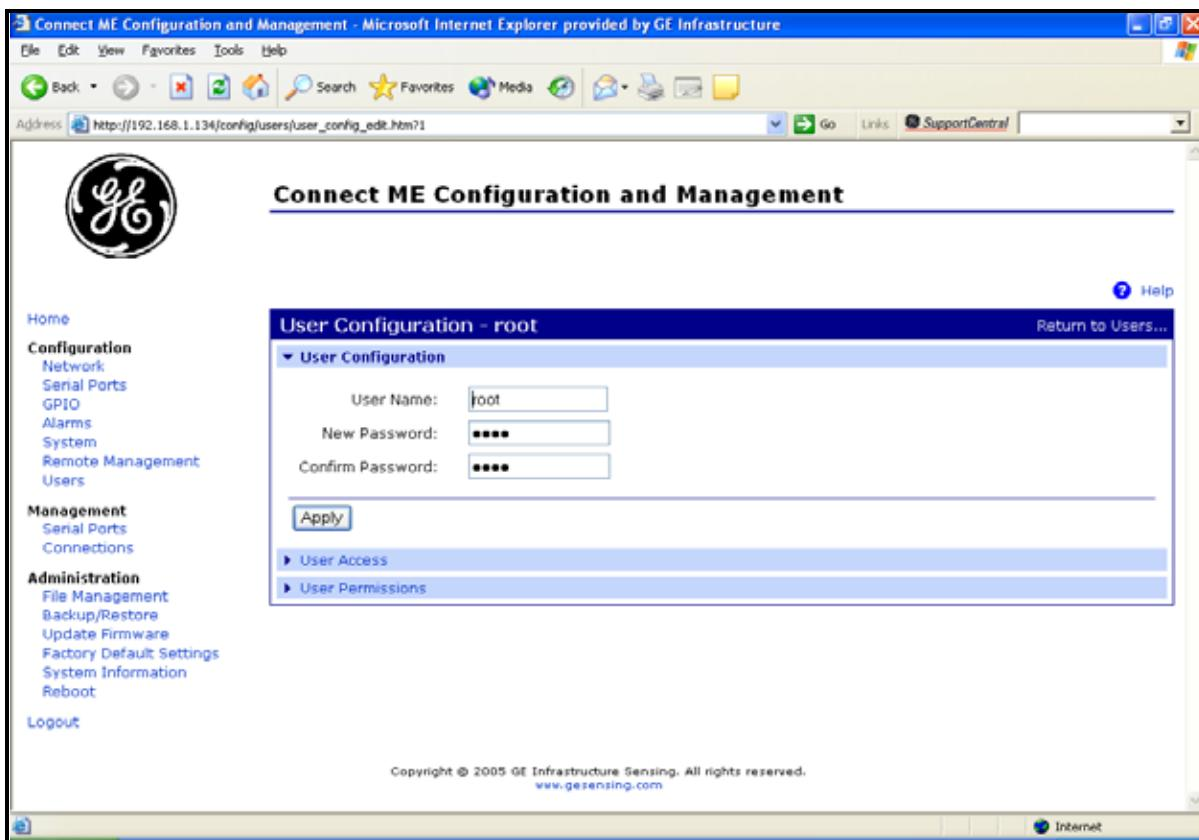

Figure 19: Changing the User Name and/or Password
5. Click on **New....** Figure 19 on page 35 appears.